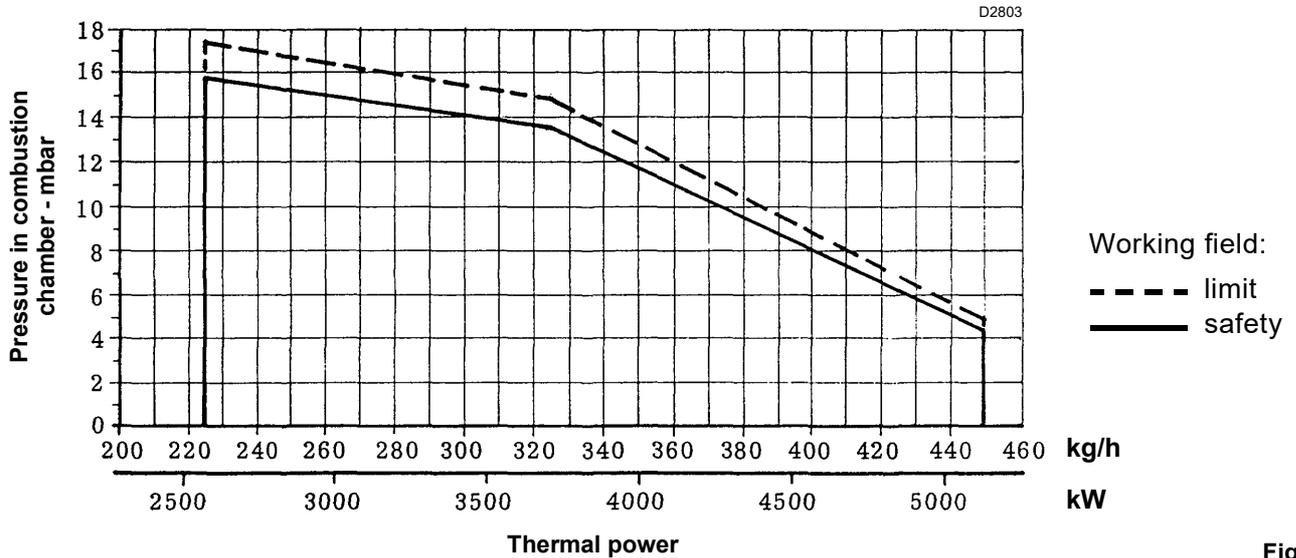

Fig. 2
**MAXIMUM OUTPUT** must be within the firing rate (Fig. 2).